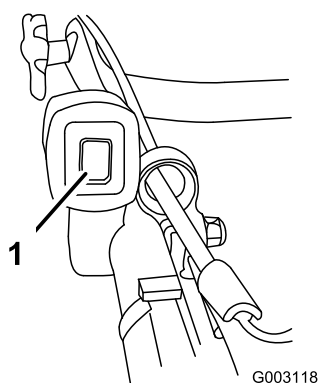

Figure 19
1. Push the ignition toggle switch to the On ("I") position (Figure 19).